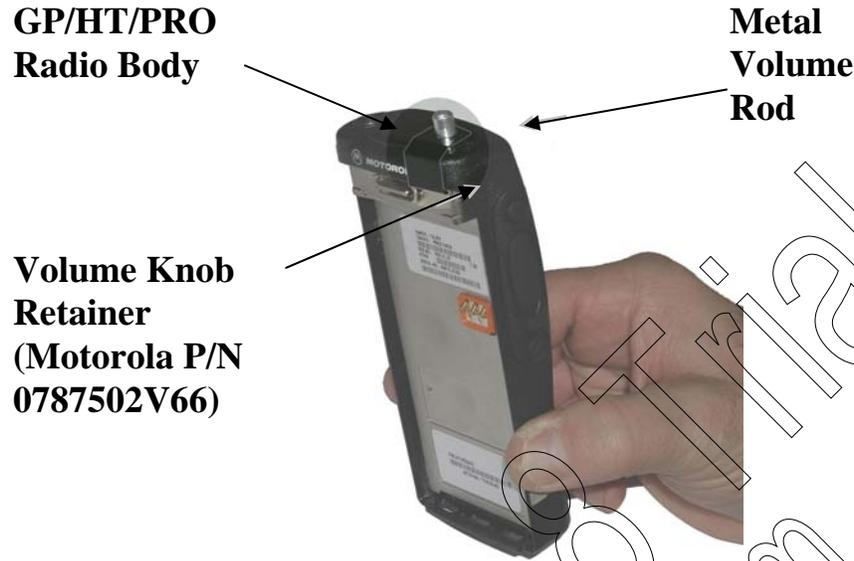

Figure 21-29 Attach Retainer to Radio
2. Place the hole of the volume knob retainer (shown in Figure 21-28) over the exposed metal volume rod on the radio (shown in Figure 21-29.)
3. Fasten the bottom of the volume knob retainer to the radio body. (See Figure 21-29.)